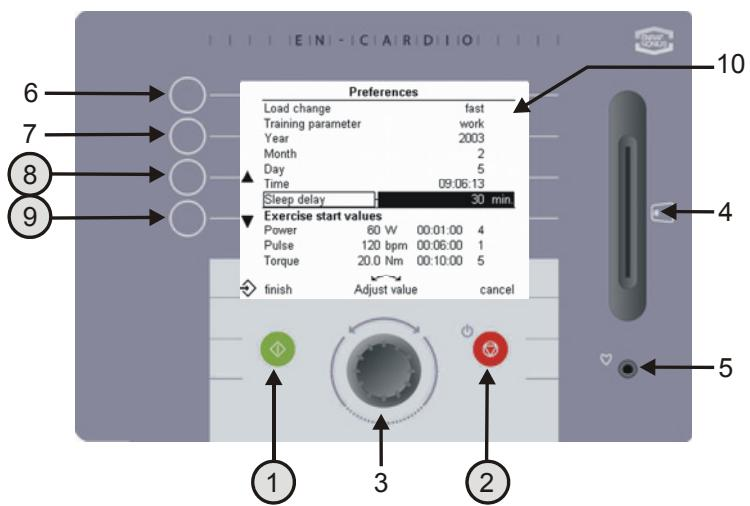

Fig. 15 Preference settings
After making the changes you can exit the preferences menu by pressing the green exit button (1). The selected form of exercise, training time and profile number will then appear in the settings screen (Fig. 15). If you want to exit the screen **without** saving the changes, press the red break button (2). The settings screen (Fig. 15) appears.